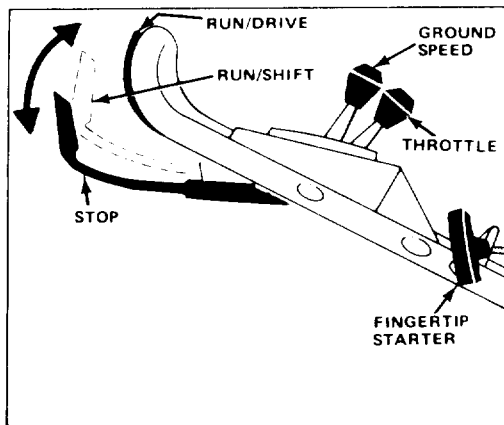
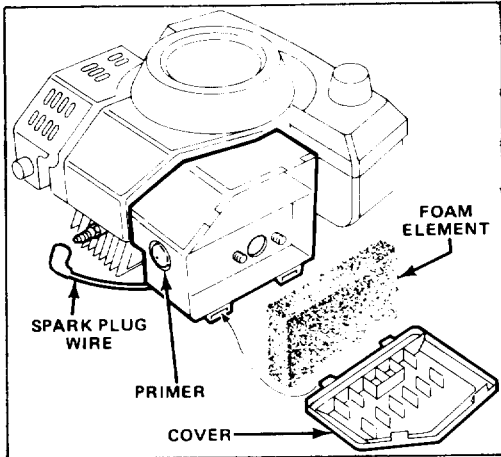

Figure 9
Figure 12
**1. CONTROLS**—Ground speed control, throttle, control bar, and fingertip starter are on upper handle (Fig. 9).
**2.** Push spark plug wire onto spark plug (Fig. 12).
**3. STARTING**—Move ground speed control to "N" and throttle to CHOKE (Fig. 9). Cover hole in center of primer with thumb and push once (Fig. 12). Lift control bar to RUN/DRIVE position and hold. Pull fingertip starter and regulate throttle as desired when engine starts (Fig. 9).
**4. TRACTION OPERATION**—Allow control bar to move into the RUN/SHIFT position. Move ground speed control to desired setting and squeeze control bar against handle to drive. Ground speed varies, depending on space between control bar and handle (Fig. 9).
1. Stop engine and pull wire off spark plug (Fig. 12).
2. Lift tabs at top of air cleaner cover and pivot cover down. Clean cover thoroughly (Fig. 12).
3. If outside of foam element is dirty, remove it from air cleaner body (Fig. 12). Clean thoroughly.
**1.** Stop engine and pull wire off spark plug (Fig. 12).